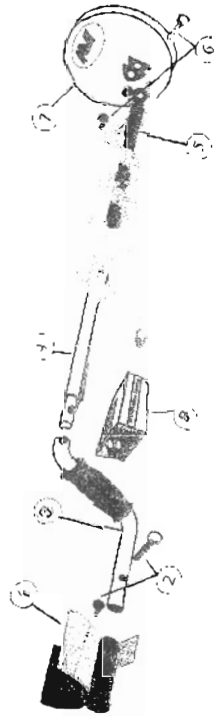

Figure 1 - Assembly of the XT 17000
Figure 1 shows normal searching without AGT. Ground noises reduce the effective searching depth when you move from where you last ground balanced. The shaded area shows ground which is not properly searched.
- Remove the black nylon bolt and nut (2) from the armrest (1).
- Slide the armrest (1) (with the support fins pointing to the ground) onto the end of the grey upper shaft (3) furthest from the foam handgrip (as is shown in figure 1). Line up the holes at a comfortable position for the length of your arm.
- Push the nylon bolt (2) through the holes and tighten the wing nut by hand.
- Slide the intermediate shaft (4) into the upper shaft (3) taking note of the position of the black "Y" clip (as shown in figure 1). Ensure that they click together correctly and will not easily come apart.
- Remove the tape on the lower fibreglass tube (5) which is holding the black teardrop washers in place. Make sure the washers do not fall out after removing the tape.
- Remove the white nylon nut and bolt (6) from the coil (7).
- Push the lower fibreglass tube (5), with the teardrop washers in place, into the bracket on the coil so that the holes line up. Make sure that the black nylon spring clip, near the top of the fibreglass tube, is pointing toward the rear of the coil.
- D. Push the white nylon nut and bolt (6) (as shown in figure 1) through the holes in the bracket on the coil from the cable entry side, then place the spacer and wing nut on the other end of the bolt and tighten by hand.
- A. Slide the lower shaft assembly into the intermediate shaft (4). Note that the black plastic locking nut may need to be loosened to get the lower shaft assembly in.